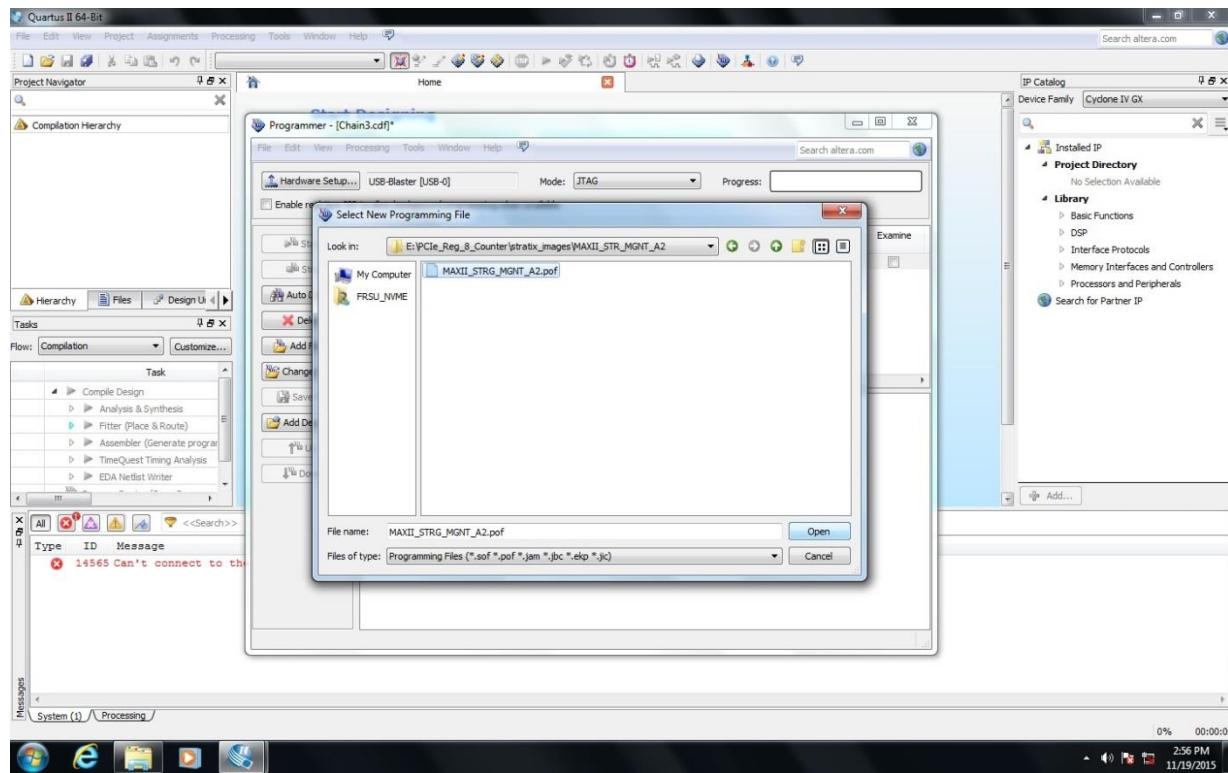
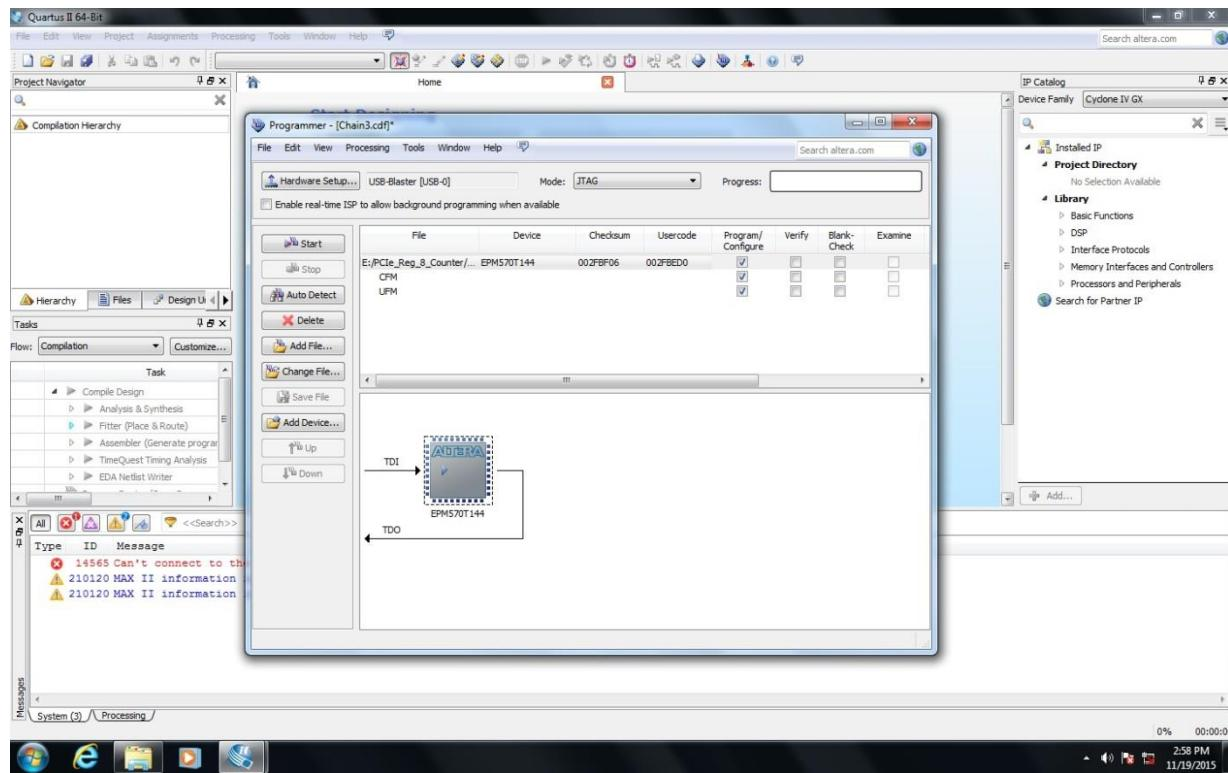

Figure 32: Opening the image file to be flashed
Figure 33: Selecting the image file to be flashed on the device
- Open the .pof file as shown in figure 32 and select the checkbox as shown in the figure 33. On successful open, that file name is replaced with selected file name.